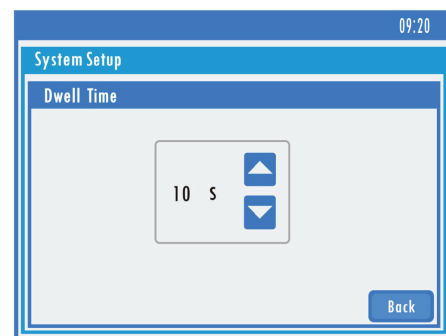

Fig 5-4 Dwell Time Setup
• **Dwell Time Setup:** adjust from 1-60s (Fig 5-4). Default time is 5s, for soft material, properly longer dwell time is good, then the indenter could have enough time to touch the specimen surface.
3) Setup dwell time, see Fig 5-4.
**5.3.4** Turn the Rotating Wheel (7) clockwise to lift up the Up and Down Lead Screw. The specimen slowly touches the indenter without any shock until the hardness tester displays 10kgf on screen; at this time, the buzzer gives a sound, it has been loaded the initial test force. The Testing Table stops rising. (When the Testing Table moves up too fast and the screen display a value over 10kgf, the buzzer produces a long sound, showing the operation is not correct. At this point, the Testing Table should be lowered down and the testing position should be changed for another test.)